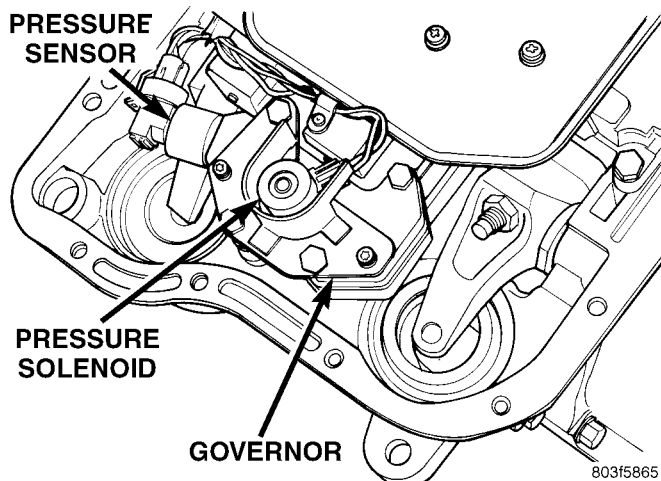

FIGURE 1
- 1. Following the procedures in the applicable service manual, replace the governor pressure sensor with p/n 56041403AA (Figure 1).